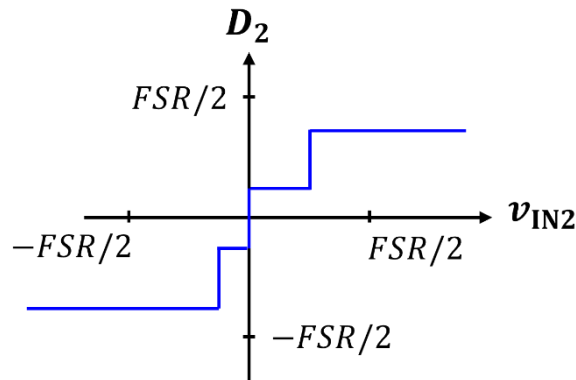

Figure 3: Non-ideal transfer characteristic of the ADC of stage 2.
- j. Repeat task I.i using the transfer characteristic for the ADC of stage 2 shown in Figure 3 where the transition at $-FSR/4$ shifted to $-FSR/8$.